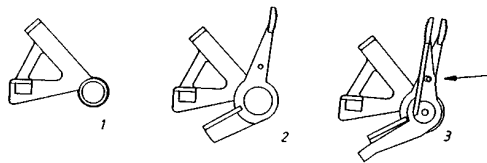

FIGURE 3
- ⇒ ● a) Assemble the three levers together (figure 3). Lever 2 (upper paper release) onto lever 1 (paper pressure lever), and lever (lower paper release) onto lever 2. Observe that the little plug of lever 2 is fitted in the hole provided in lever 3.